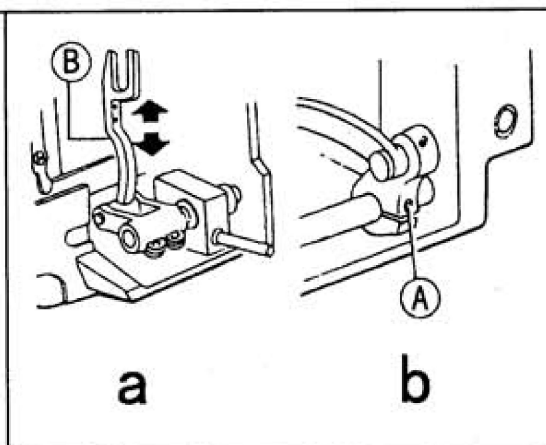

Fig. 25
- 2) Loosen Feed Rock Shaft Crank Screw (A). See Fig.25 (b).
- 3) Move Feed Bar (B) in the direction shown by the arrow in Fig. 25 (a) to adjust the feed dog position.
- 4) After the adjustment, be sure to tighten Screw (A).